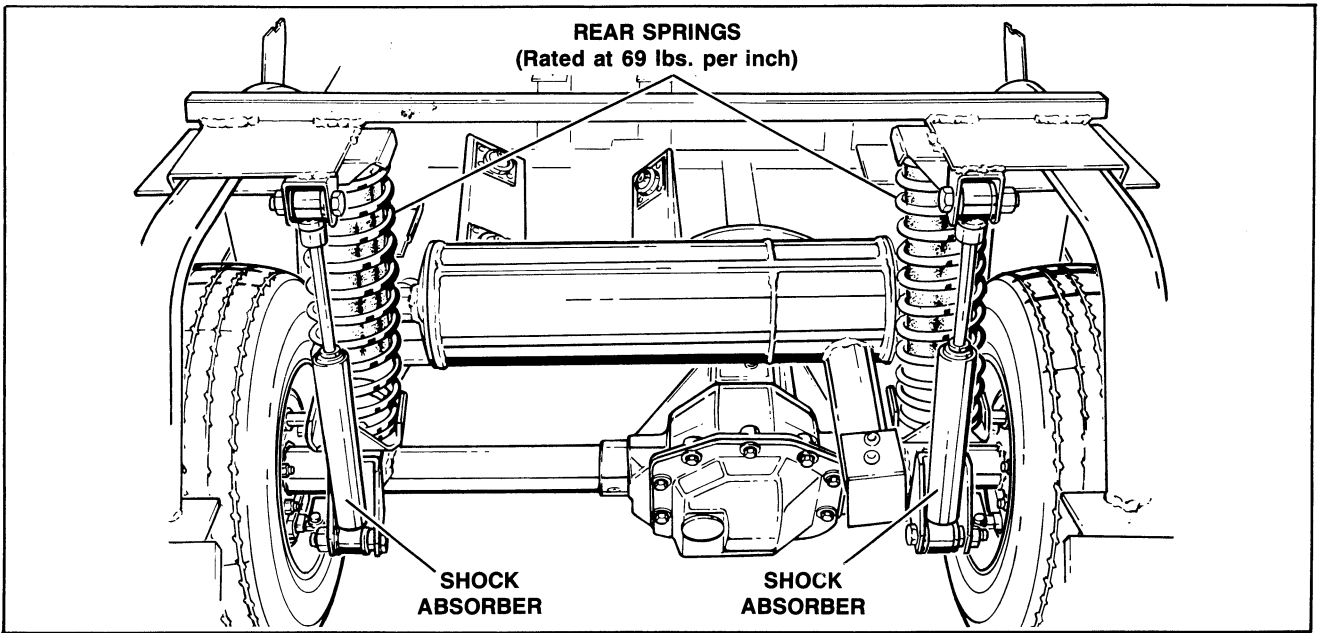

Figure 13 – Rear Springs and Shock Absorbers
11. INSPECTING AND REPLACING REAR SHOCK ABSORBER (Figure 13)
12. REAR SPRINGS (Figure 13)